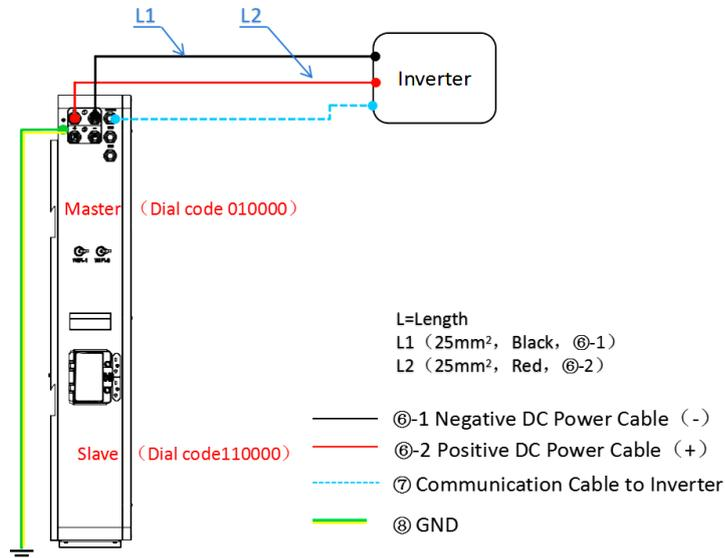

Fig. 4.1.1 Single-Set System Cable Connection Diagram(10kWh, Output Power 5kW)
Step2. Connect the pre-installed ⑥power cable and ⑦communication cable to the inverter refer to Fig. 4.1.1 .